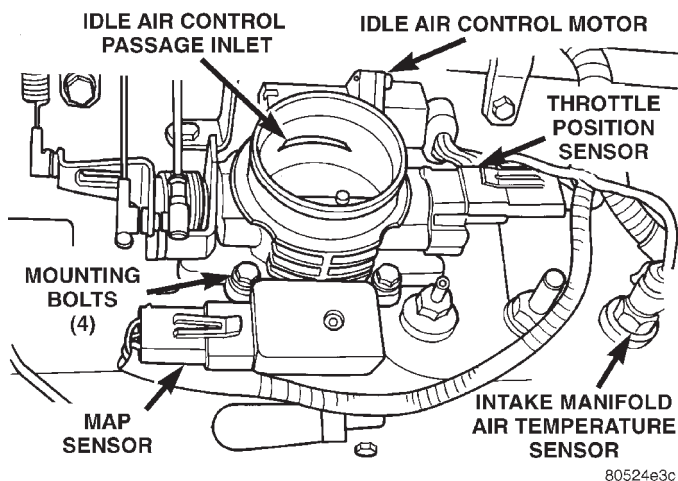

Fig. 64 Throttle Body and Sensor Locations—4.0L Engine
- (1) Remove the air cleaner duct at throttle body.
- (2) Disconnect throttle body electrical connectors at MAP sensor, IAC motor and TPS (Fig. 64).